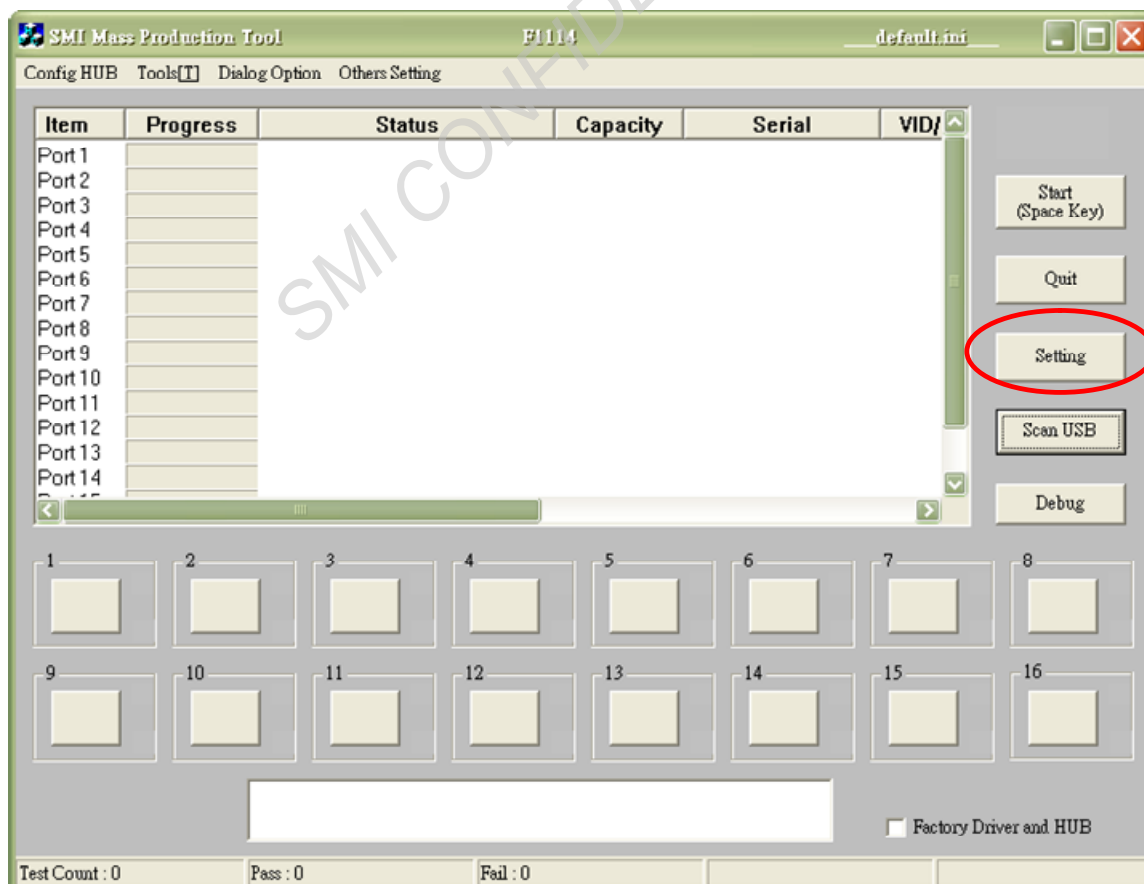

Fig. 1 Setting Function of SM32X Production Tool
- **Setting Function:(see the Fig. 1)**